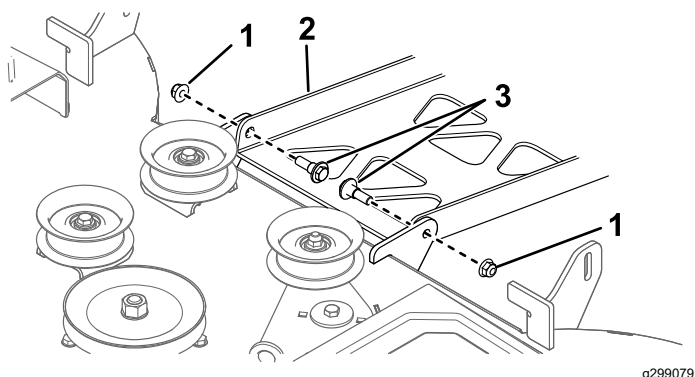

Figure 60
4. At the rear of the mower deck, remove the 2 shoulder bolts and nuts securing the deck to the pivot pan (Figure 60).
- Secure the rear of the deck to the pivot pan using the shoulder bolts and nuts removed previously (Figure 60).